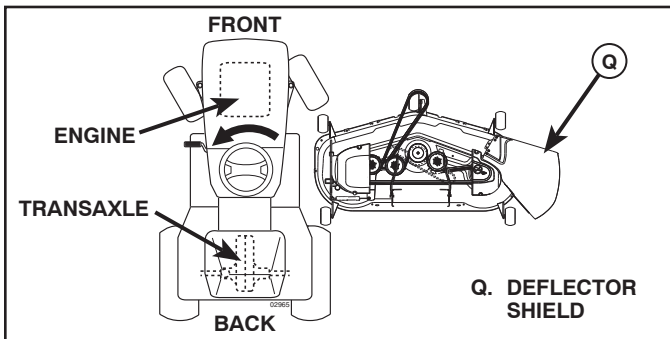

Fig. 23
3. TURN STEERING WHEEL LEFT AND POSITION MOWER (See Fig. 23)
- Turn steering wheel to the left as far as it will go and position mower on right side of tractor with deflector shield (Q) to the right.